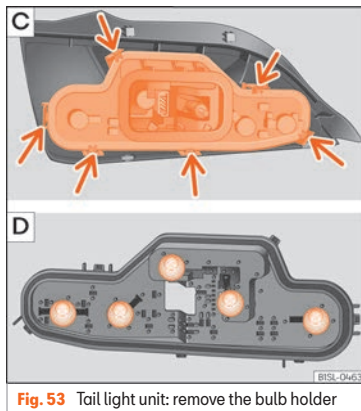

Fig. 53 Tail light unit: remove the bulb holder
- Unlock the bulb holder on the locking flanges (arrow) » » Fig. 53 [C] and remove the bulb holder from the tail light.
- Replace the damaged bulb with a new identical bulb » » Fig. 53 [D].
- Place the bulb holder in the tail light unit. The locking tabs (arrow) must be heard to engage » » Fig. 53 [C].